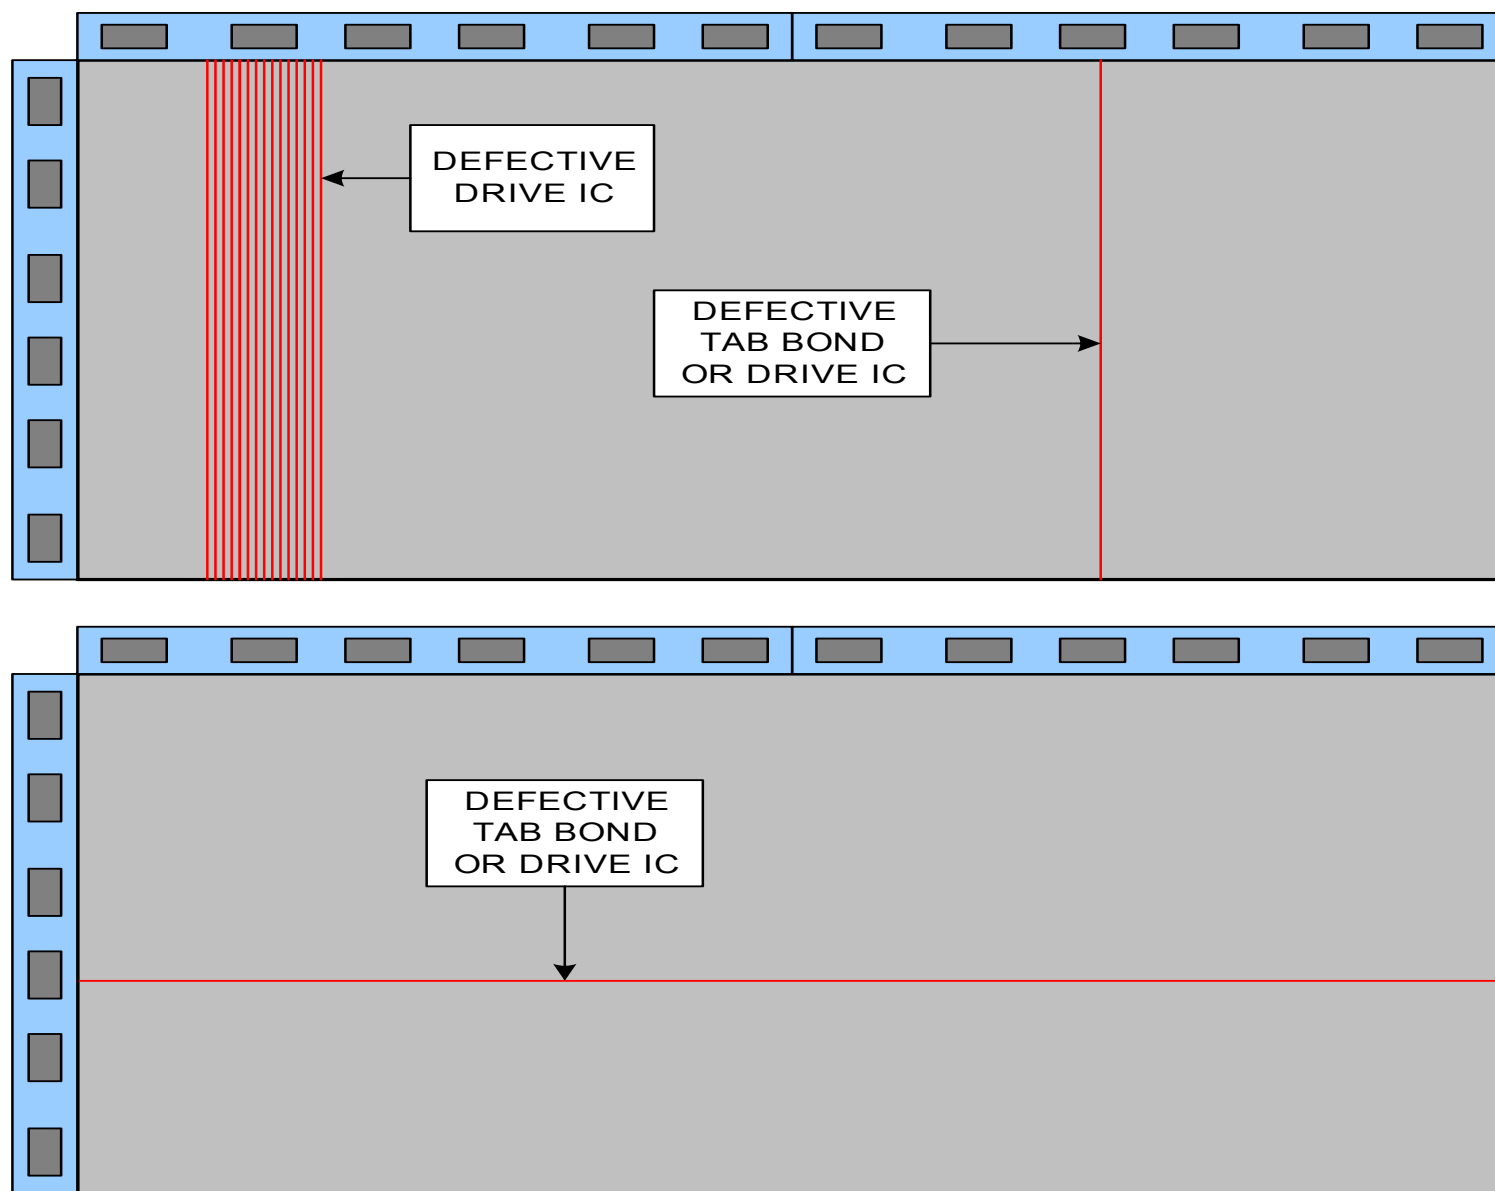

FIGURE 4-2
**LCD Panel Failures:** Some LCD panel failures could possibly be mistaken for TCON issues. Other than damage to the LCD glass, most panel failures are isolated to a particular area of the screen. Since the TCON disperses the pixel data to groups of line and column drive IC's situated on the outer edges of the panel, it is unlikely that more than one of these IC's would fail at the same time. Multiple columns of stuck on or stuck off pixels are, therefore, more likely to be the fault of the TCON circuits. The same applies to a single row of lit or unlit pixels. The TCON simply cannot cut out a single line of information. Figure 4-2 illustrates some typical symptoms of failures that are caused by the LCD panel.